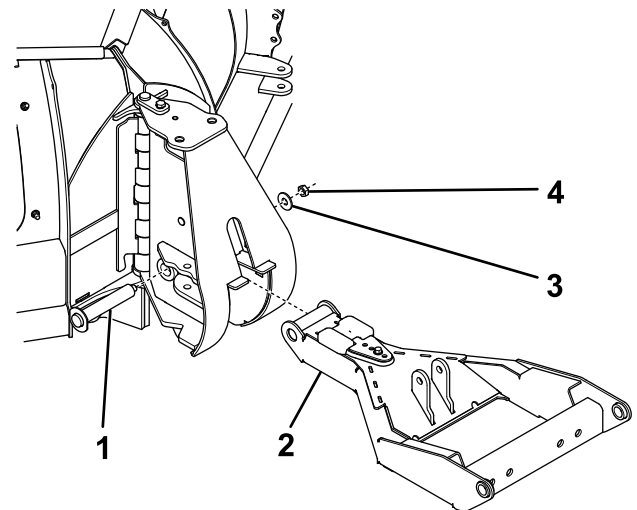

Figure 5
5. Remove the horizontal hinge pin, flat washer, and top locknut from the blade center (Figure 5).
6. Slide the pushframe into the blade center (Figure 5).
top locknut, and secure the pushframe to the blade center with them (Figure 5).